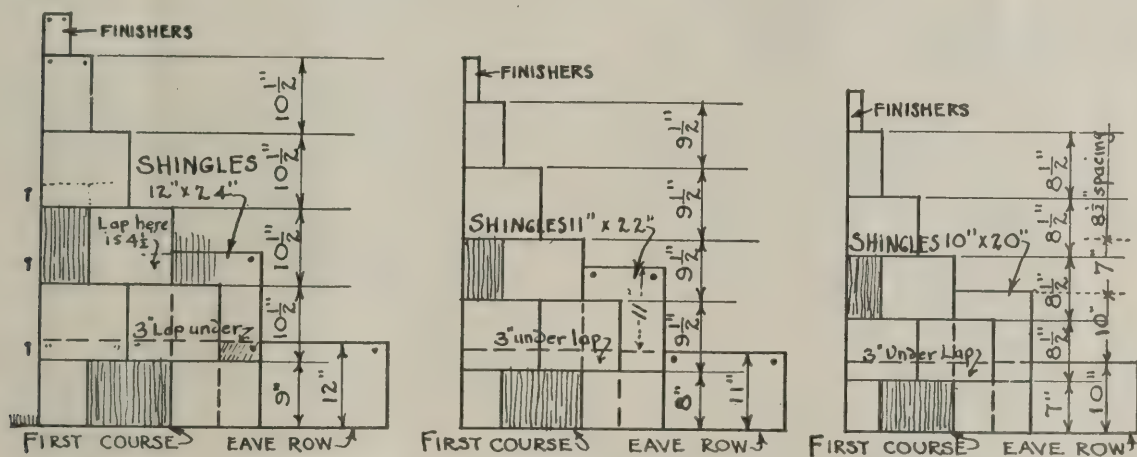

Fig. 11. Diagram for chalk lines on roof sheathing or felt
*Chalk Lines.*—The diagram, Fig. 11, shows the manner of chalking on the sheathing or felt for a number of courses ahead, when desired. Lines for sizes varying from 12 x 24 in. to 10 x 20 in. inclusive are given. For any of the other sizes, proceed in a similar manner. A very good point to remember